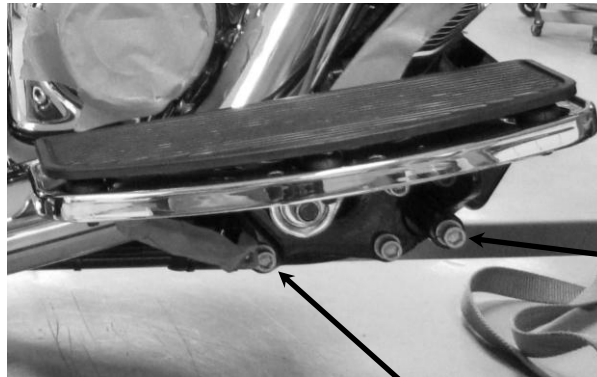

FIGURE 9
27. Insert the supplied floorboard spacer plate between the rear floorboard mount and the frame, then align the dowel pin and reinstall the allen bolt. Tighten to factory specifications. See **FIGURE 9**.
28. Remove the allen bolt from the right front floorboard mount. Place the supplied thick washer between the front floorboard mount and the frame. Reinstall and tighten the allen bolt to factory specifications. See **FIGURE 9**.